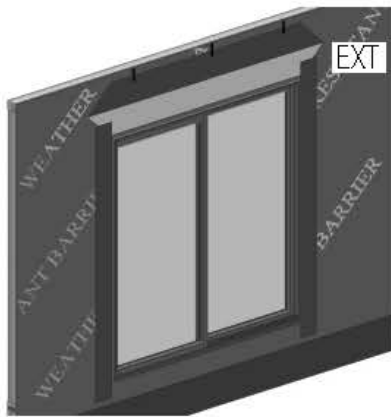

FIG. 17
- A) Cut and apply side flashing. Side flashing should run from the bottom of the sill flashing to 8" above the rough opening.(Fig. 17)